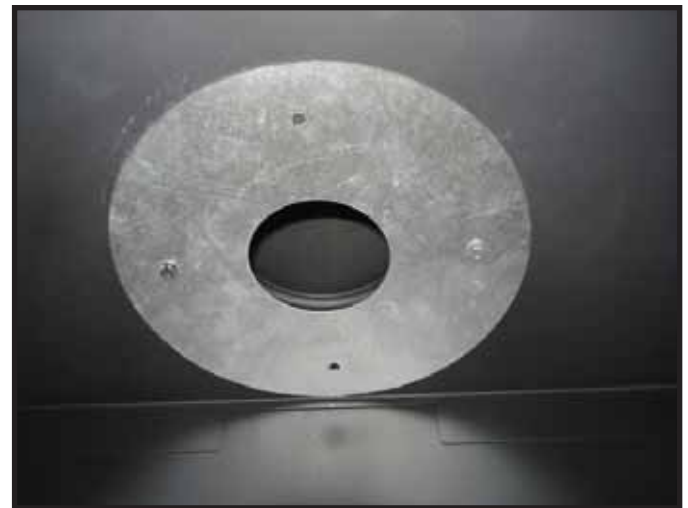

Figure 7.10 Exhaust Restrictor Installation
3. Use two 1/2 in. self-piercing screws to secure vent restrictor to firebox heat shield. See Figure 7.10.